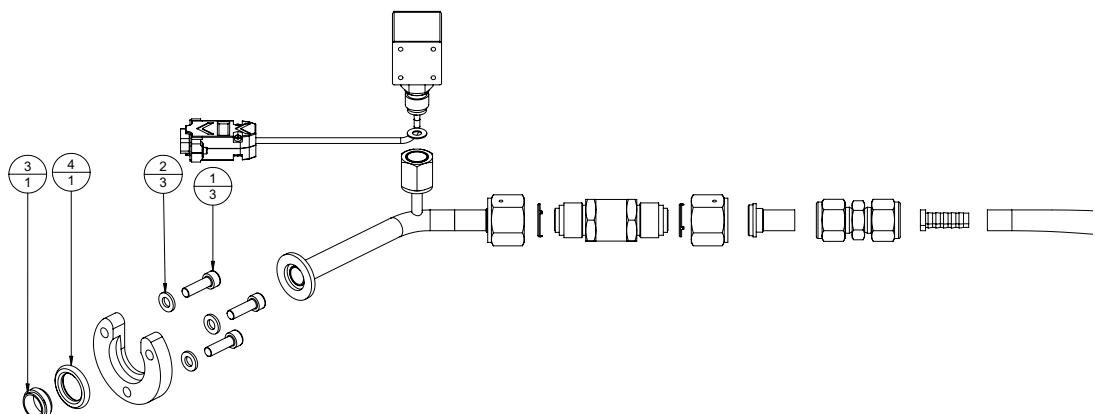

Figure 4.15 Atmosphere Switch Assembly
1. Refer to Figure 4.15.
2. Remove three M6 x 20 screws (1) and washers (2) and remove the atmosphere switch assembly.
3. Dismantle the assembly and remove O ring (4) and carrier (3).
6. Refit the assembly to the chamber using screws (1) and washers (2).